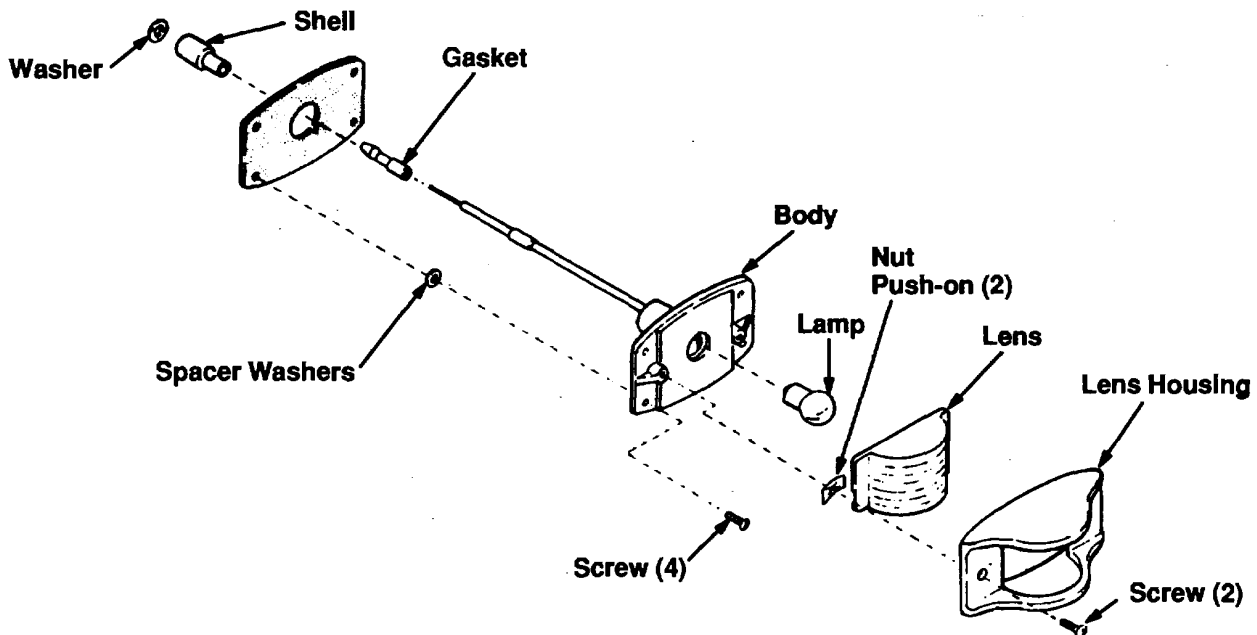

Figure 4-16. Exploded View of Marker Light
(1) Remove two screws that hold lens housing to body. Remove lens housing, fig. 4-16.
(2) Press down on lamp and turn counterclockwise to remove lamp.
(3) Install new lamp.
(4) Replace lens housing. Secure with two screws.
(1) Remove two screws that secure lens housing to body. Remove lens housing, fig. 4-16.
(2) Remove four screws that fasten marker light body to plate. Be careful not to lose the four spacer washers between gasket and body.
(3) Disconnect marker light lead and remove marker light.
(4) Remove washer and shell from marker light lead.